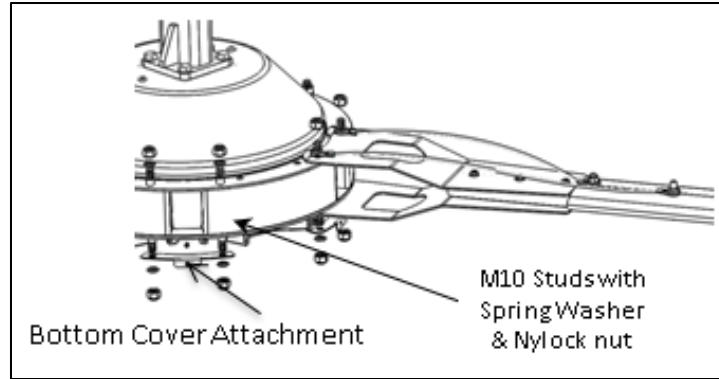

Figure 27 : Blade Assembly
3. Remove 2 numbers of nut & stud from motor assembly (as shown in Figure 27 : Blade Assembly). Slide the stud into strut attachment hole.
5. Install the bottom cover attachment after placing the blade assembly on bottom side (as shown in Figure 27 : Blade Assembly.)